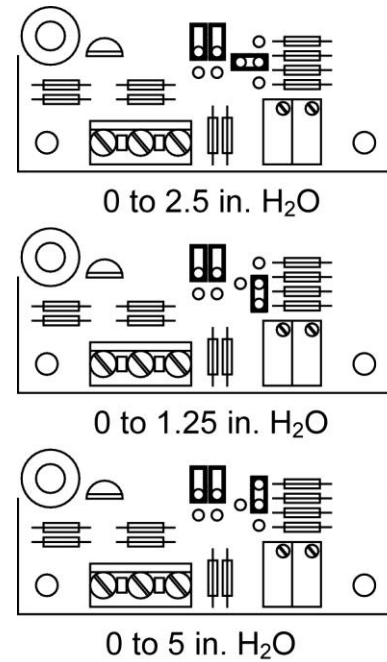

Figure 1: Pressure Transducer Jumpers
- 2) Verify that the jumpers on the pressure transducer are installed correctly, per Figure 1. The default pressure transducer output range is 0 to 5.0 in. H₂O.